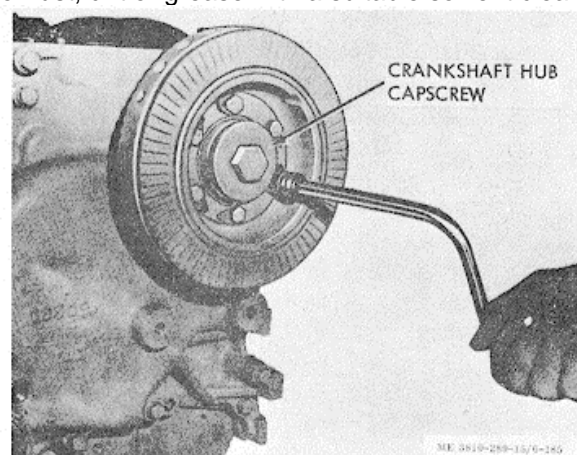

Figure 3-177. Vibration damper removal and installation.
(2) Disengage lockplates and remove capscrews securing damper to hub, figure 3-177; remove damper.